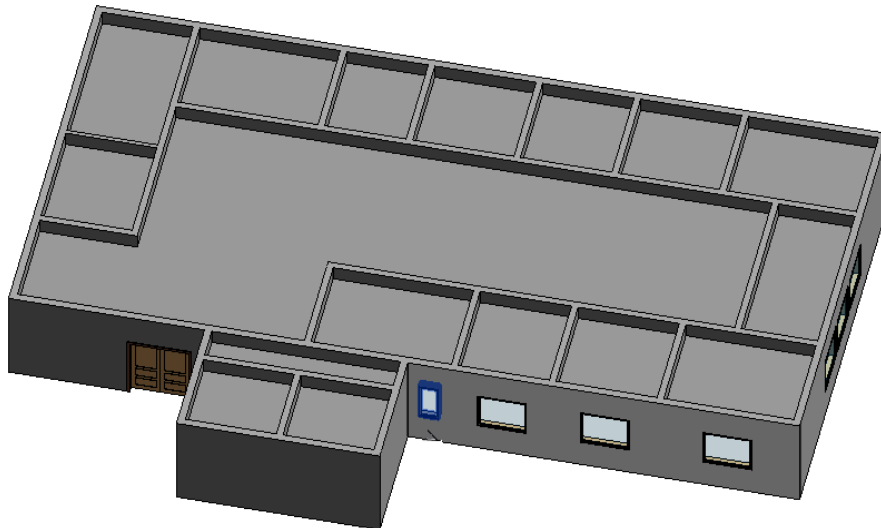

Figure 3-91 Displaying the ceiling over the Building II
7. Click on the + symbol for the **3D Views** head in the **Project Browser** and double-click on **{3D}**; the 3D view of the apartment project with the created ceiling is displayed. You can move the cursor over the ceiling of the room to highlight and display the ceiling, as shown in Figure 3-91.